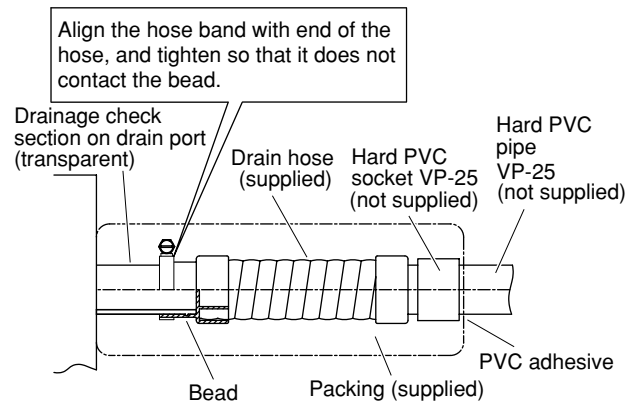

Fig. 3-105a
- (1) Prepare standard hard PVC pipe (O.D. 32 mm) for the drain and use the supplied hose band to prevent water leaks. The PVC pipe must be purchased separately. The transparent drain part on the unit allows you to check drainage. (Fig. 3-105a)
- Tighten the hose clamps so their locking nuts face upward. (Fig. 3-105a)